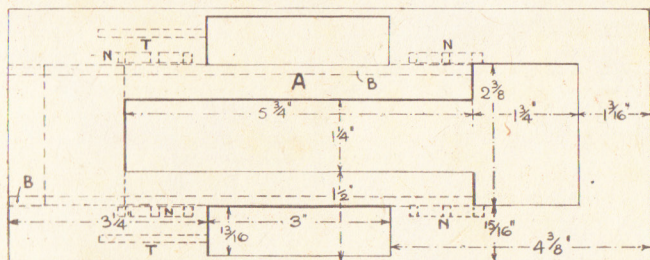
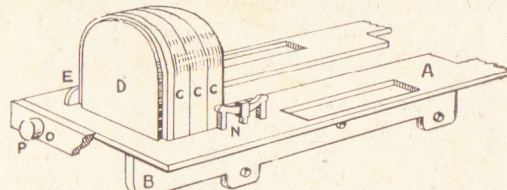

Fig. 1—The lay-out of the baseplate
Fig. 2—Front end of footplate
A piece of $\frac{1}{4}$ in. thick wood will be wanted for the footplate, measuring 10 $\frac{1}{2}$ ins. by 4 $\frac{1}{2}$ ins., and as Fig. 1 shows, there are three interior openings to be cut in it to the measurements given. The position of other pieces to be glued to this floor is shown by the dotted lines. Turning now to the cover pattern page, we cut out two pieces as (B). These are to take the axles of the wheels and will be glued to the underside of the footplate, as seen by dotted lines in Fig. 1 and in the diagram Fig. 2.
funnel is, will be made up of four pieces, as (C) on the pattern sheet, three being cut from $\frac{3}{8}$ in. wood, and one from $\frac{1}{8}$ in. wood. They will be glued together and cleaned round with glasspaper. The overlay (D) will be cut according to the dotted line on (C), pattern sheet, and this will be of $\frac{1}{4}$ in. stuff. See Fig. 2 for completion of this part. Cut two of piece (E) from $\frac{1}{4}$ in. wood and glue to pieces (C).